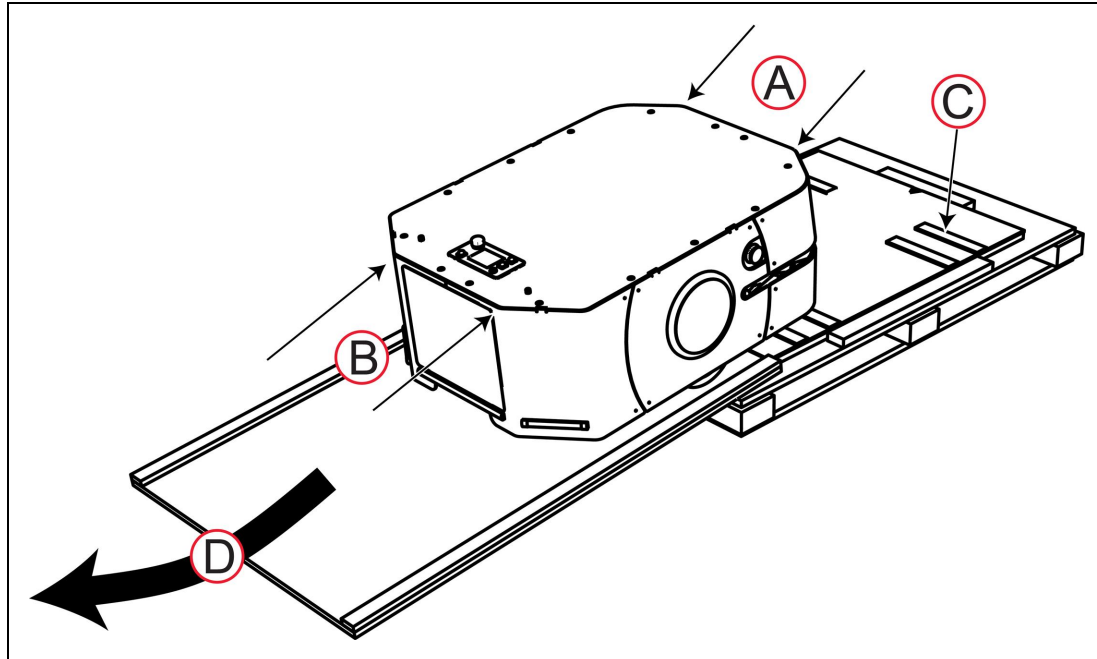

Figure 3-5 Move the LD-250 Down the Ramp
1. Referring to Figure 3-5, Identify the safe push points (A) and (B) at the top edge of the skins. Do not push lower down on the chassis because it might damage the skins or other components.
3. Pushing from the top edge of the chassis using the push points (A) and steadying the LD-250 at push points (B), carefully roll the LD-250 over the caster chocks and down the ramp.